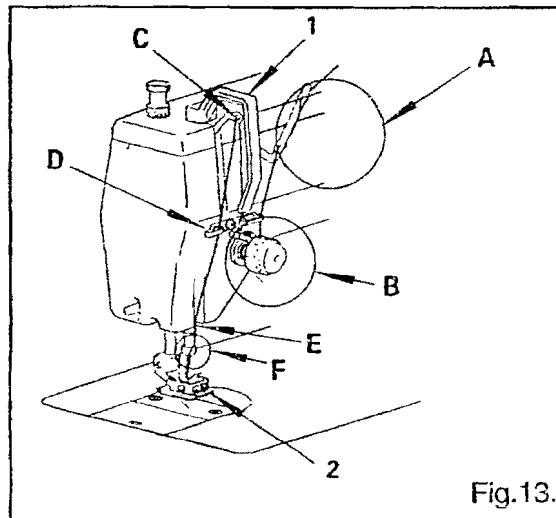

Fig.13.
12. THREAD SURFACE STITC - HES(Fig.13,14,15,16)
1. Raise the needle bar to the highest position, then pull the thread out and through A(Fig. 13), B(Fig. 14), C,D,E and F.(Fig. 16)